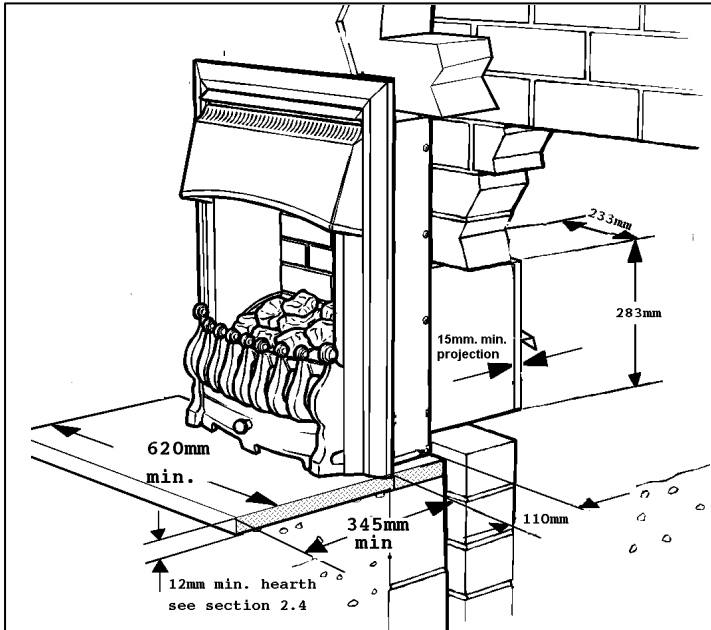

Figure 8
### 5.3 BRICK, STONE ETC. BUILDING. CONVECTION BOX RECESSED INTO WALL (Figure 8)
**5.3.2.** The non-combustible hearth must project at least 345mm in front of the convection box front flanges and be at least 620mm wide (Figure 8).
**5.3.6** The rectangular hole through the wall to cater for the flue box should be to the size shown in Figure 8. The bottom of the hole should be at the same level as the top surface of the hearth. In almost every case, it will not be necessary to support this hole with a lintel. If, however the wall is of poor construction seek expert building advice before commencing to